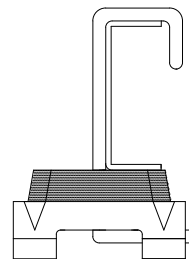

Figure 3
- When installed correctly, the **GenieClip C3** should sit directly under the cold-rolled channel as shown in **Fig. 3**.